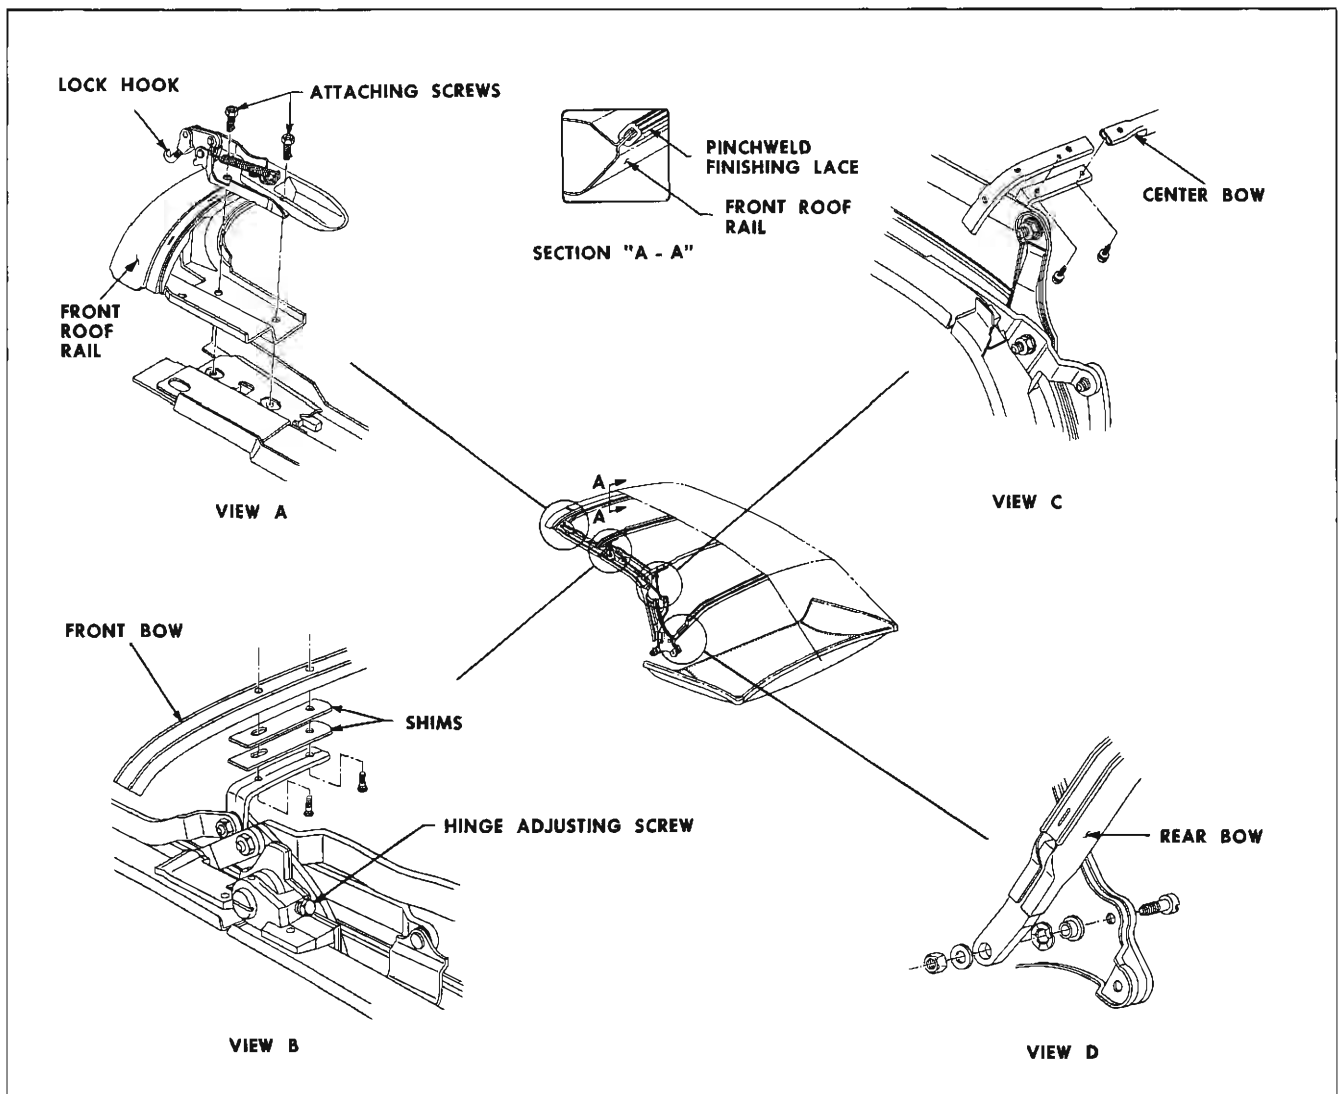
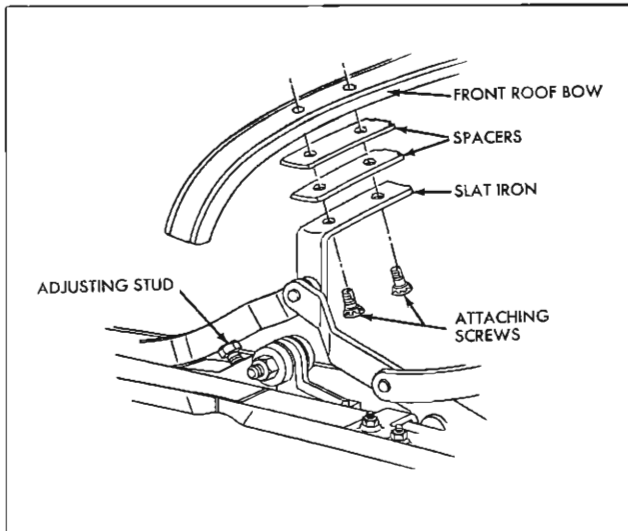

Fig. 21-2 Tempest Folding Top Linkage
Fig. 21-7 Pontiac Hinge Adjusting Stud
2. Loosen corner brace attaching screws and adjust front roof rail fore or aft as required. Repeat on opposite side if necessary (see Fig. 21-2 view A, and 21-3).
2. With top in a half-open position, remove lock attaching screws; then remove lock assembly from front roof rail (see view A, Fig. 21-2).
1. To tighten or increase locking action, turn lock hook clockwise (see view A, Fig. 21-2).
10b. Center side roof rail hinge adjusting stud improperly adjusted.	10b. Adjust stud clockwise (Pontiac, Fig. 21-7; Tempest, Fig. 21-2).